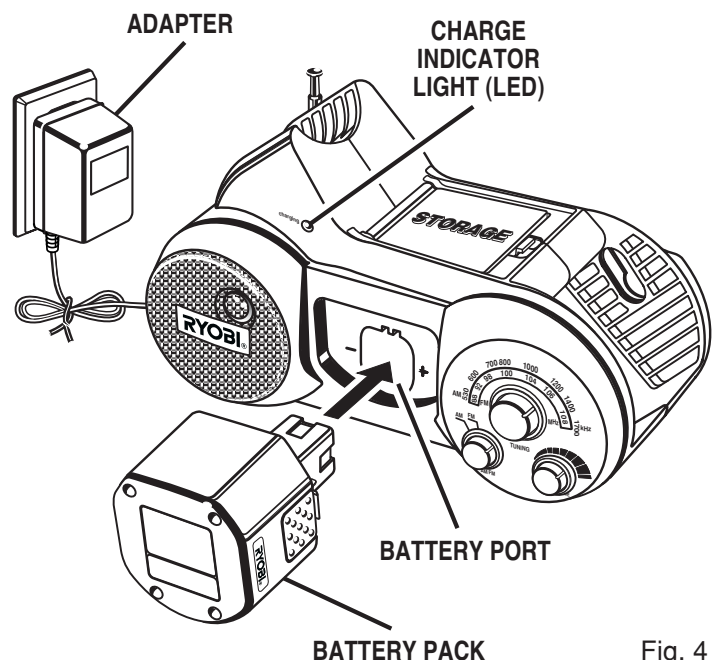

Fig. 4
See Figure 4.
- Place battery pack in charger. See Figure 4. Align raised rib on battery pack with groove in charger.